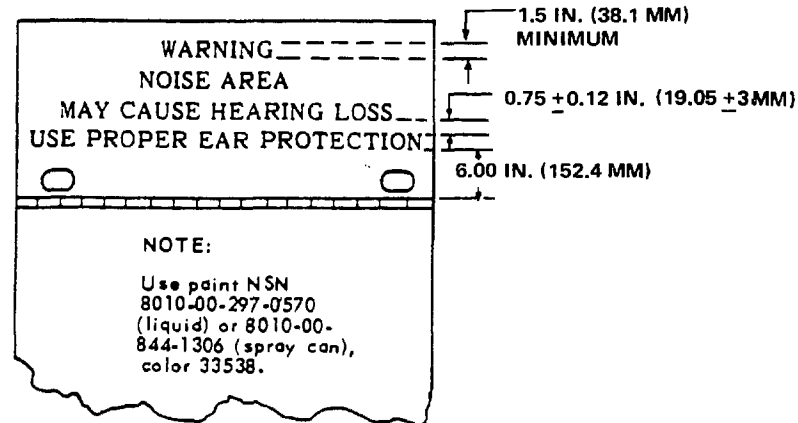

Figure 4-3. Noise Level Warning Sign
- (1) (AF only). Inspect generator for proper painting and marking (refer to AFR 35-1-3).
- (2) Ensure that a noise level warning sign is stenciled on the top half of both rear (generator end of set) side doors (6, figure 4-10) as shown in figure 4-3.